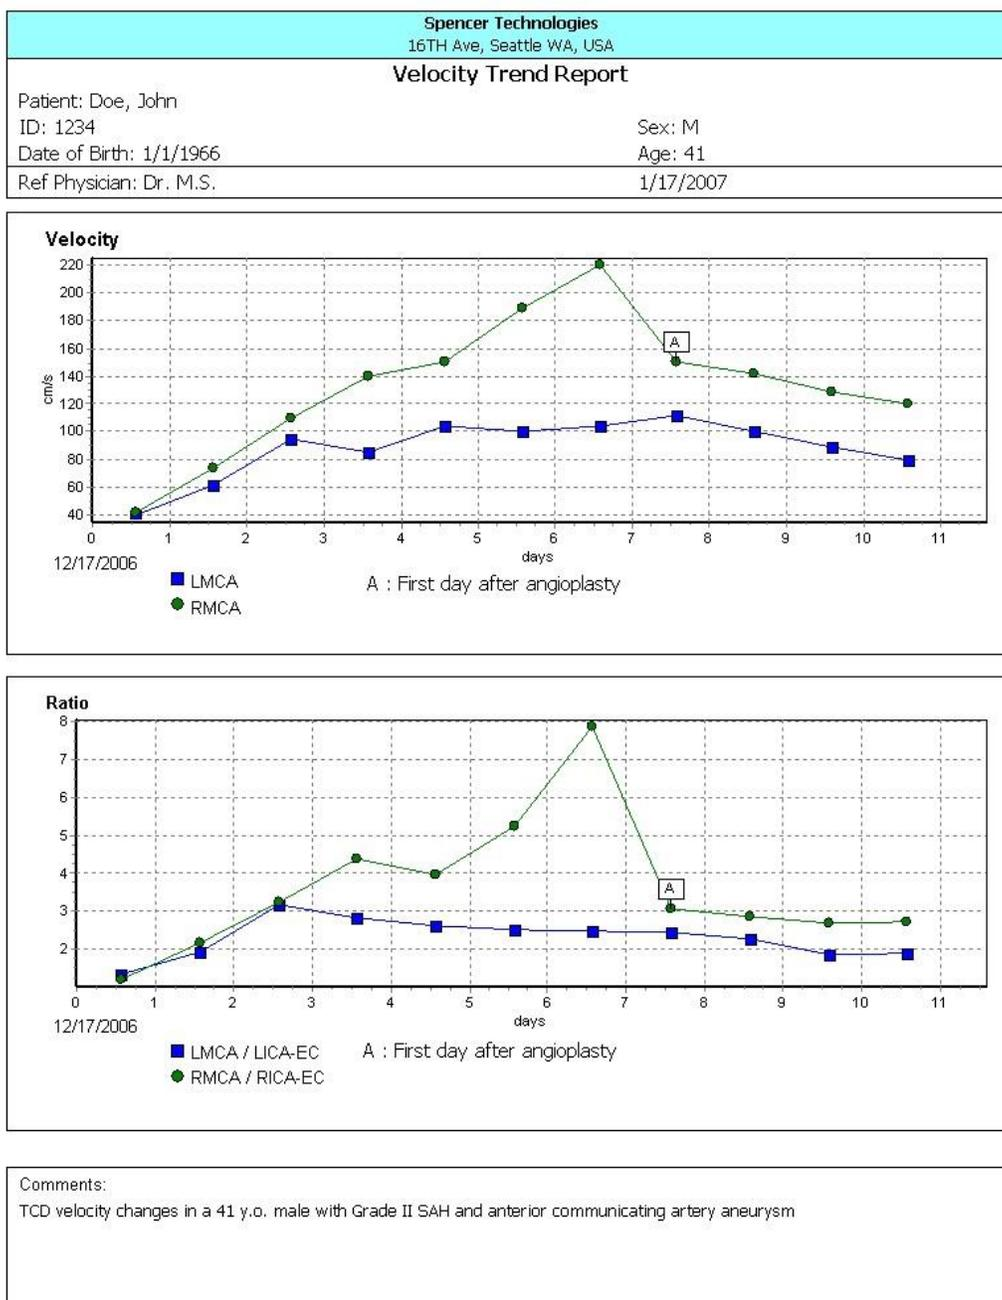

Figure 13 – Sample of a Velocity Trend Report
- **Velocity Trend report** – designed for daily trending of velocities in selected vessels, such as for vasospasm evaluation. See Figure 13 on page 38.